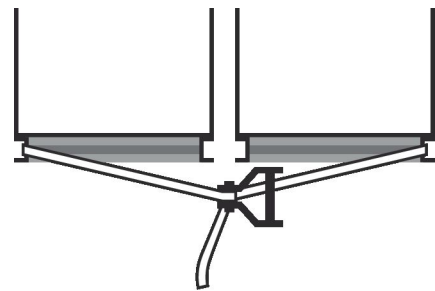

Fig. 15: Attaching a ratchet strap
1. ▶ Attach a ratchet strap to the base frames of two AHU casing units ( Fig. 15 ).